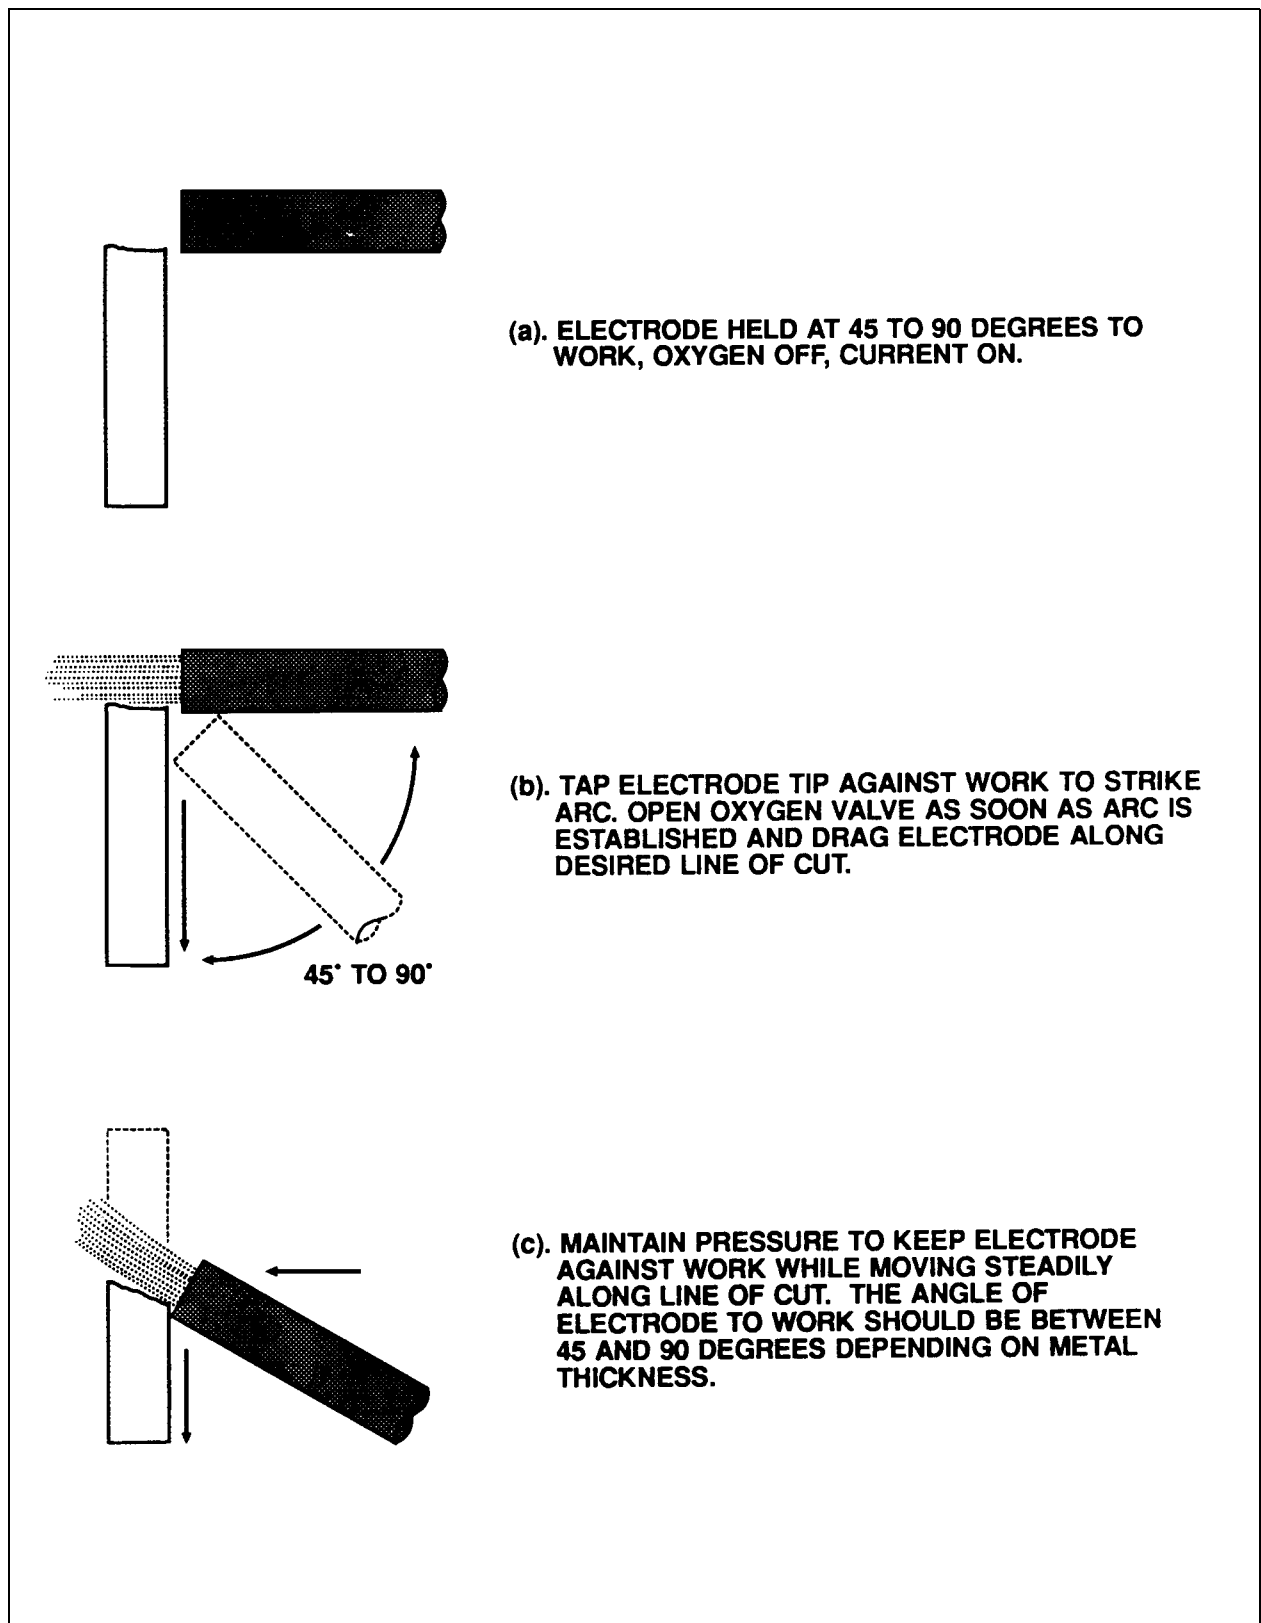

Figure 2-7. Technique for Cutting Steel Using Exothermic Electrode.
- a. Insert the electrode into the collet opening until it bottoms out on the washer. Tighten the collet nut. When ready to start the cut, hold the oxygen trigger down to get a steady flow of oxygen. Release the trigger slightly. Hold the electrode at an angle of 45° to 90° to the surface to be cut, depending on material thickness (see Figure 2-7). Call for SWITCH ON. Draw the tip of the electrode across the work and strike an arc. As soon as the arc is established, squeeze the trigger full open. Hold the tip of the electrode in the molten pool and drag the electrode along the line of cut. Apply a downward pressure until the electrode penetrates the full thickness of the material to be cut.